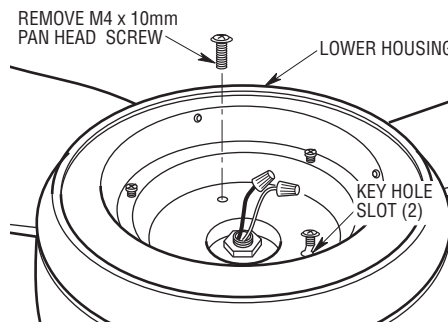

Figure 2
4. Remove one of the three screws in the motor housing assembly and loosen the remaining two screws (Figure 2).
5. Attach the lower housing assembly to the fan motor using the two key slot holes (Figure 2). Secure the lower housing assembly by tightening the two screws. Reinstall the screw that was previously removed.